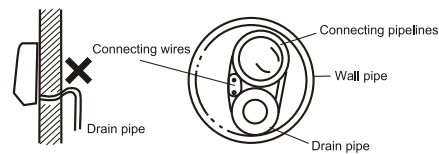

Fig 6
c. The drain pipe should not curve upward(Fig 6).
- d. The drain pipe should be at the lower part of the wall pipes(Fig 6).